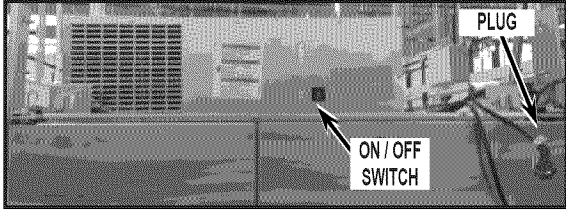

FIGURE 1
**NOTE:** The High Voltage (HV) Assembly you receive may not look the same as the control shown in the instructions or the control you are replacing. Do not remove any components off the new assembly to replace components on the old assembly. This must be installed as a complete assembly.
2. Locate the ON/OFF switch and toggle the position to OFF. See *Figure 1*.